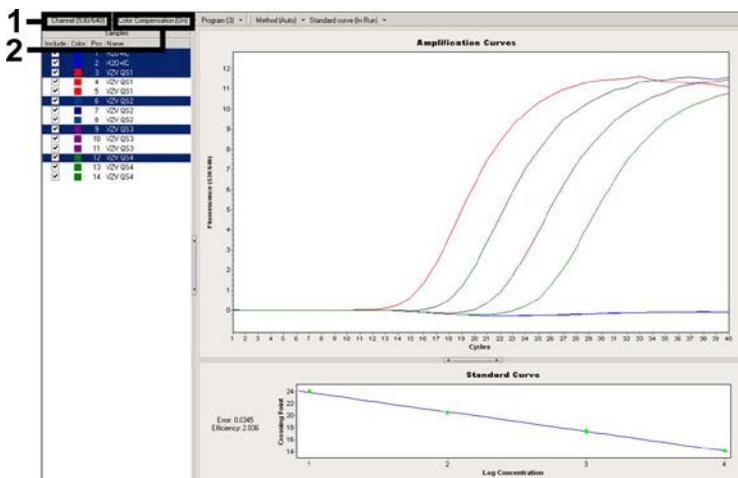

Fig. 11: Activation of the *Color Compensation File* and selection of the fluorescence channel.
For the analysis of PCR data please proceed as follows (see Fig. 11):
- The *LightCycler* Software Version 4.0 contains a file termed *Color Compensation File*, which compensates multicolour analyses interferences between fluorescence channels. Open this file during or after the PCR run by activating the *Color Comp (On/Off)* and then the *Select Color Compensation* button (see Fig. 11). If no *Color Compensation File* is installed, generate the file according to the instructions given in the *LightCycler Operator's Manual*.